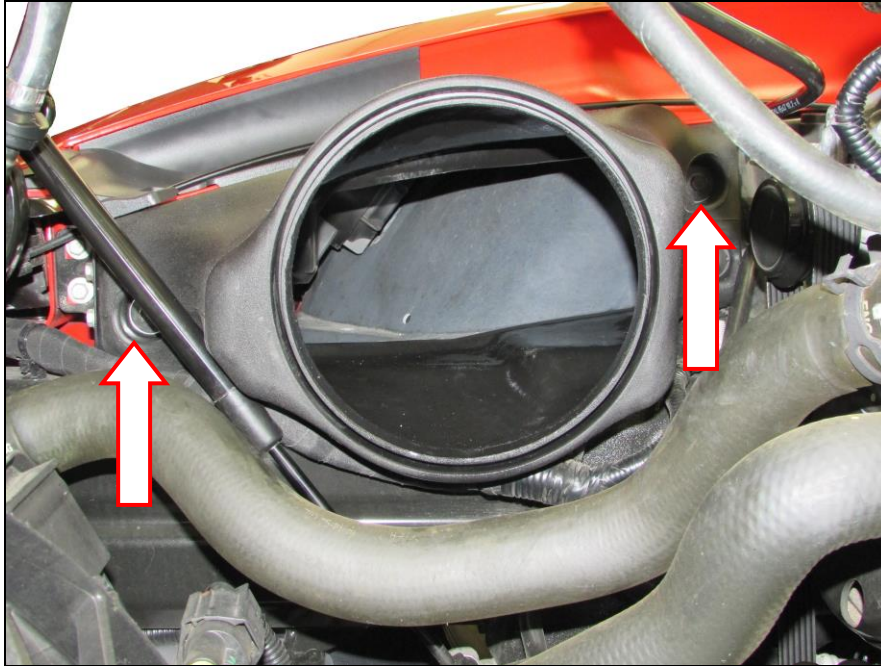

Figure 6
10. Secure housing using the 2 factory bolts previously removed (**Figure 6**).